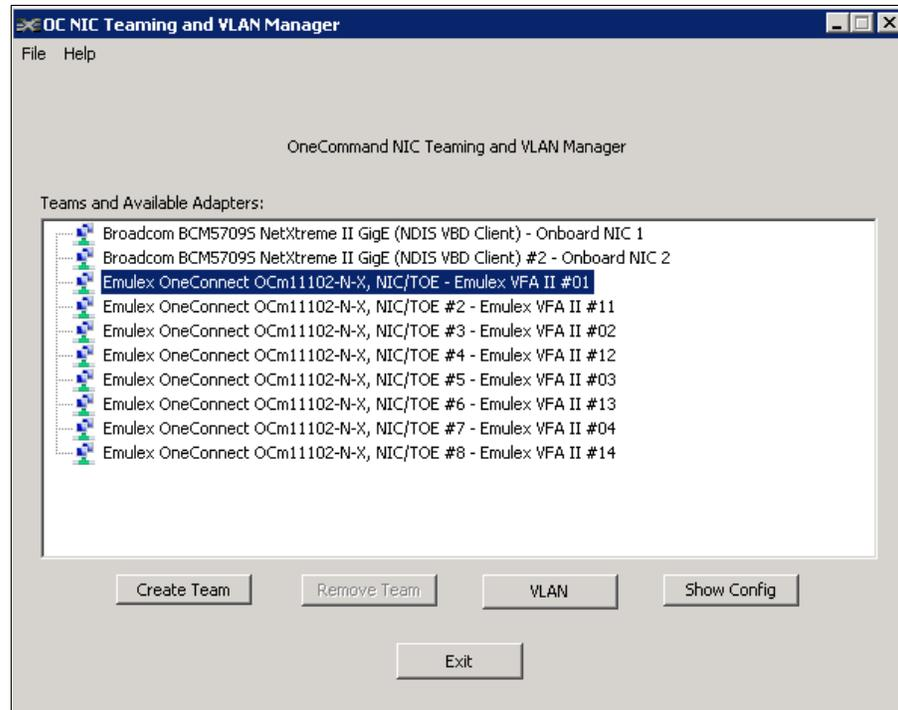

Figure 5-33 Configuring a new team by using OneCommand NIC Teaming Manager
2. In the OC NIC Teaming and VLAN Manager window (Figure 5-33), click **Create Team** to create a team configuration.